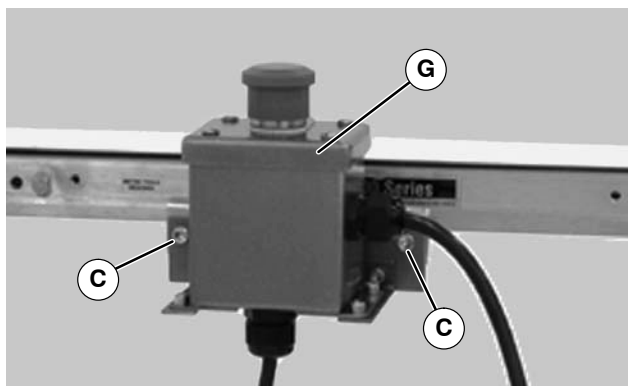

Figure 5
2. Attach Pushbutton Box assembly (G of Figure 5) with screws (C).